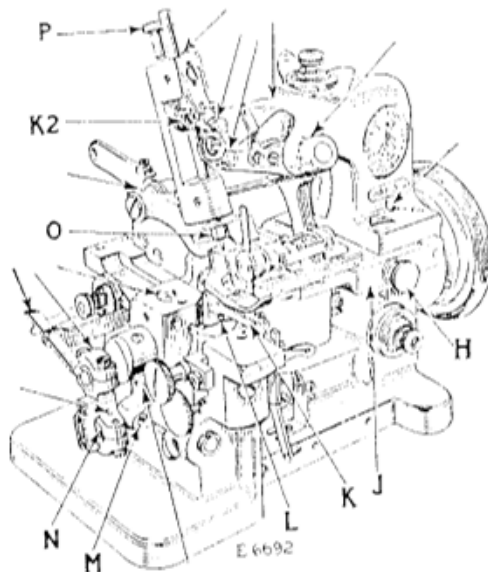
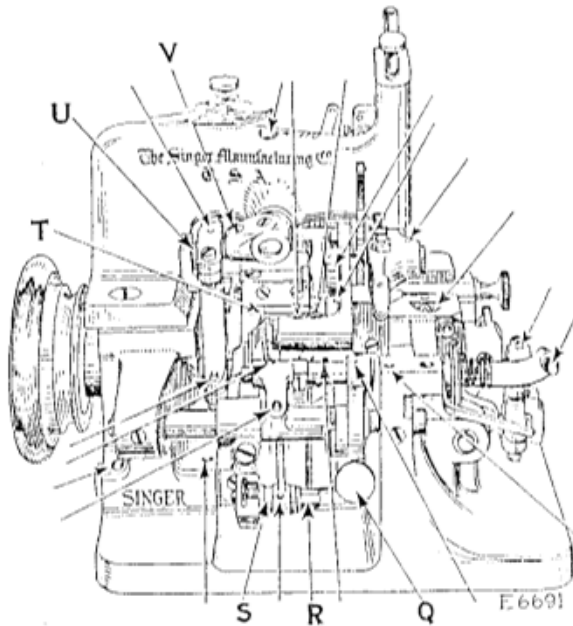
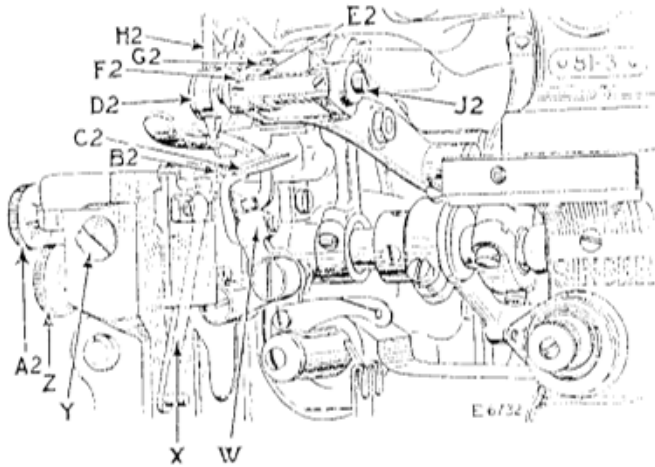

FIG. 2. OILING POINTS AT THE FRONT OF THE MACHINE
FIG. 3. OILING POINTS AT THE BACK OF THE MACHINE
FIG. 8
Turn the balance wheel over from you until the needle bar has risen $\frac{3}{4}$ inch from its lowest position. The point of the left hand looper, on its loop taking stroke, should then be at the centre of the needle, and the eye of the needle should be about $\frac{1}{16}$ inch below the looper point. If the needle bar is not at the correct height, loosen the pinch screw (K2, Fig. 2) and move the needle bar upwardly or downwardly as required, then securely tighten the pinch screw (K2).
A variation in the amount of needle bar stroke can be obtained by adjusting the ball stud (U, Fig. 3). To lengthen the stroke, loosen the set screw (V, Fig. 3) and move the ball stud inwardly or toward the crank. To shorten the stroke of the needle bar, move the ball stud (U) outwardly or away from the crank, then securely tighten the set screw (V).
The left hand looper (C2, Fig. 8) should be set in the looper carrier (W, Fig. 8) so that the point of the looper on its loop taking stroke just brushes the needle. The point of the right hand looper or spreader should pass at the recess back of the left hand looper eye as closely as possible without touching it.
A variation in the amount of the looper motion can be obtained by adjusting the ball stud (N, Fig. 2). To increase this motion, loosen the set screw (M, Fig. 2) and move the ball stud (N, Fig. 2) inwardly or toward the crank. To decrease the motion, move the ball stud outwardly or away from the crank. After the desired motion has been obtained, securely tighten the set screw (M, Fig. 2).
Oil should be applied to all oil holes marked “Oil” and to all oiling places indicated by arrows in Figs. 2 and 3.
Loosen the clamping nut (O, Fig. 2) at the lower end of the needle bar and put the needle up into the bar as far as it will go, with the ground-out side at the back, or farthest from you. Then tighten the clamping nut (O).
The length of stitch is regulated by the feed regulator (S, Fig. 3). With the wrench provided, loosen the screw stud (R, Fig. 3) and move the regulator backward or forward until the indicator (T, Fig. 3) points to the number, on the indicator plate, designating the required stitch. Then securely tighten the screw stud (R).
The pressure on the material is regulated by means of the thumb screw (P, Fig. 2). To increase the pressure, turn this thumb screw downwardly. To decrease the pressure, turn the thumb screw upwardly.
The lower knife (X, Fig. 8) should always be fastened in position when removing or replacing the upper knife. The lower
To take out the lower knife (X, Fig. 8), loosen the thumb screw (A2, Fig. 8) and press the upper knife holder (D2, Fig. 8) toward the balance wheel, then draw the knife out downwardly. To replace the lower knife, have the presser foot and feed down, press the upper knife holder toward the balance wheel, and push the lower knife upwardly so as to touch the presser foot without lifting it, or so that it is just flush with the top of the throat plate, then tighten the thumb screw (A2, Fig. 8). To adjust the trimmer sidewise, loosen the thumb screw (H, Fig. 2) and move the extension bracket (J, Fig. 2) to the right or away from the upper knife, loosen the screw (Y, Fig. 8) and turn the thumb screw (Z, Fig. 8) inwardly or outwardly until the trimmer is in the desired position, then securely tighten the screw (Y). Move the extension bracket (J, Fig. 2) back toward the upper knife, leaving just enough clearance between the upper knife and the bracket so as to allow free movement of the upper knife, then tighten the thumb screw (H, Fig. 2).
To remove the upper knife (H2, Fig. 8), loosen the screw (J2, Fig. 8) at the end of the knife holder, press the knife holder (D2) toward the balance wheel and remove the knife. When replacing the knife, have the knife holder in its lowest position and pressed toward the balance wheel, insert the knife and set it so that its cutting edge is just below the cutting edge of the lower knife, then tighten the clamping screw (J2).
To adjust the tension on the upper knife, loosen the set screw (G2, Fig. 8) and move the knife holder guide (E2, Fig. 8) toward the balance wheel until the distance between the knife lever (F2, Fig. 8) and the guide (E2, Fig. 8) is equal to the thickness of the upper knife when the knives are in contact with each other, then securely tighten the set screw (G2).
The feed dog (K, Fig. 2) should be set so that when it is raised to its highest point by the feed lifting eccentric the full depth of the teeth will project above the throat plate. The feed dog (K) can be set at the desired height after loosening the screw (L, Fig. 2). When the feed dog is set at the required height, securely tighten the screw (L).
When very elastic materials are to be sewn on any of the following machines: 81-3, 81-4, 81-6, 81-7, 81-20 and 81-21, the back feed dog (B2, Fig. 8) should remain in its raised position only long enough to permit the work to come out flat. To adjust the back feed (B2), turn the adjusting thumb screw (Q, Fig. 3) inwardly to lengthen its duration of feed and outwardly to shorten its duration of feed.